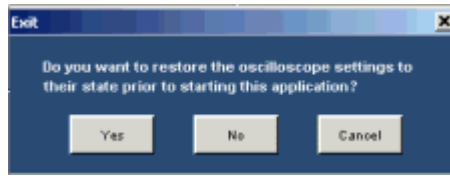

Figure 3-22: Exit dialog box
- Restore the oscilloscope settings to their state prior to starting the application as shown in Figure 3-22
- Exit without changing the present oscilloscope settings as shown in Figure 3-22